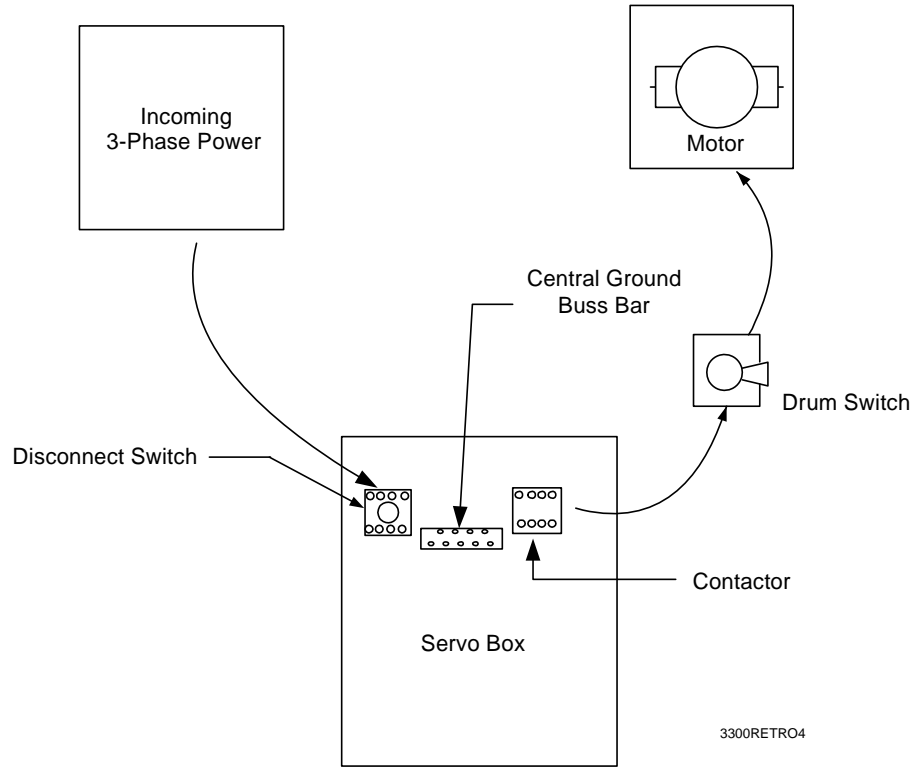
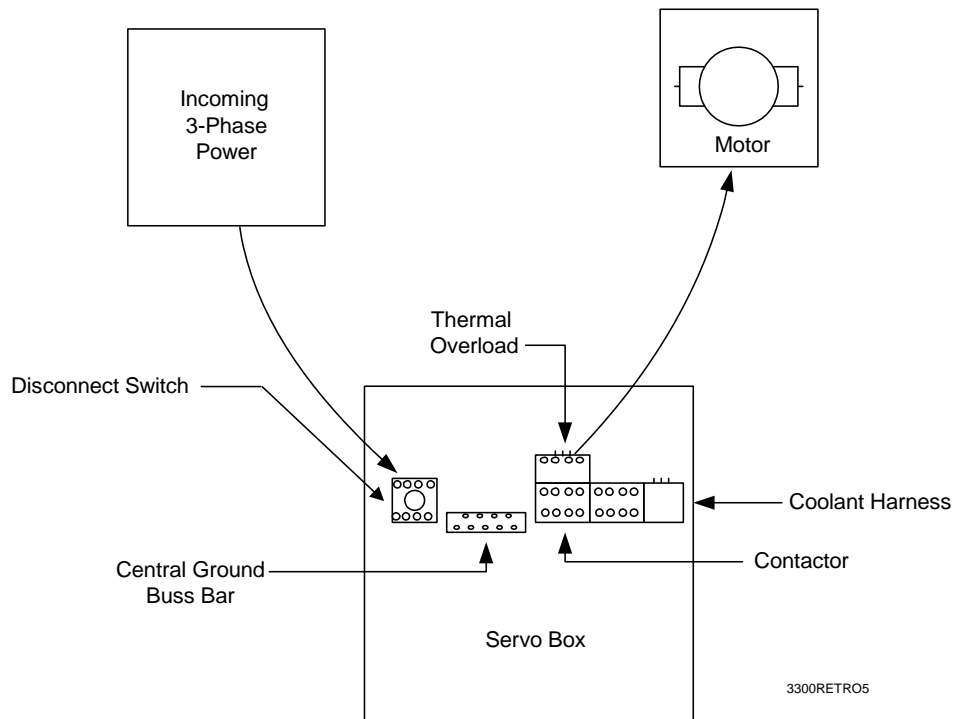

Figure 3-5, Spindle Motor Configuration Without M-Function
Figure 3-6, Spindle Motor Configuration With M-Function
- Wire the incoming three-phase power to the top side of the disconnect switch as shown in **Figure 3-5, Spindle Motor Configuration Without M-Function** and **Figure 3-6, Spindle Motor Configuration With M-Function**.
Refer to **Figure 3-5, Spindle Motor Configuration Without M-Function** and **Figure 3-6, Spindle Motor Configuration With M-Function**. Route incoming 3-phase power wires to the disconnect switch and tighten them securely. The ground conductor of the three-phase cable should be terminated with a ring lug and attached to the Servo Enclosure Central Ground Buss Bar.